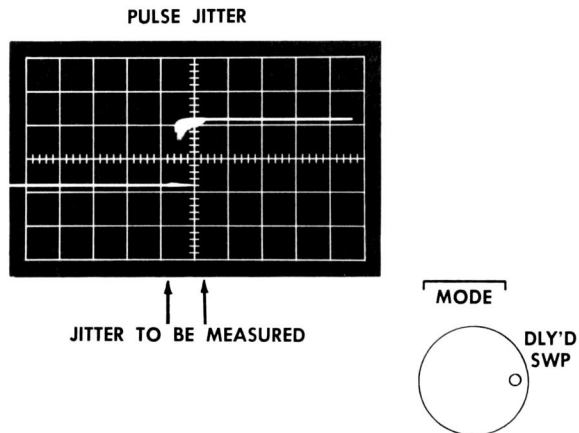

Fig. 3-4. Measurement of Pulse Jitter.
4. The leading edge of the intensified pulse will then show any jitter present. The amount of jitter can be measured (in time) by multiplying the horizontal distance in divisions (of the jitter area; see Fig. 3-4) by the setting of the DELAYED SWEEP knob (setting of white dot on large black knob).